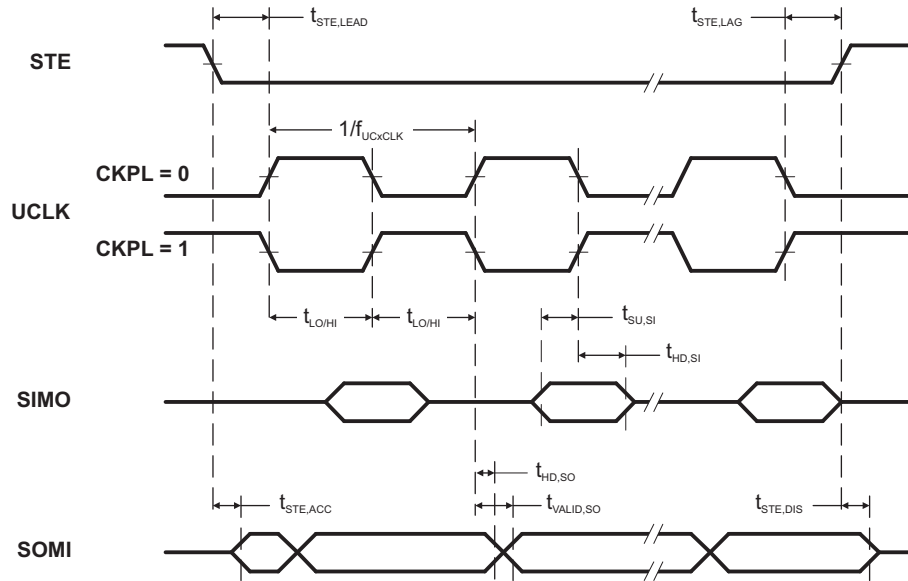

Figure 9. SPI Slave Mode, CKPH = 0
(see Note (1), Figure 9 and Figure 10)